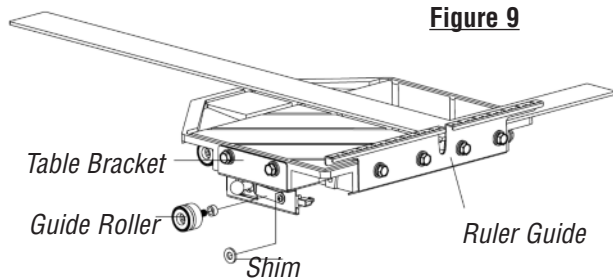

Figure 9
1. Lower the table bracket by loosening the two affixed bolts. (see figure 9) Remove the table from the rails.
from the ruler guide. On the other hand, if the table shifts to the left, a shim needs to be added to the guide roller closest to the ruler guide. Remove the appropriate guide roller to insert a shim between the roller and table, then reattach. (see figure 9) Depending on the severity of the shift, more than one shim may be required.